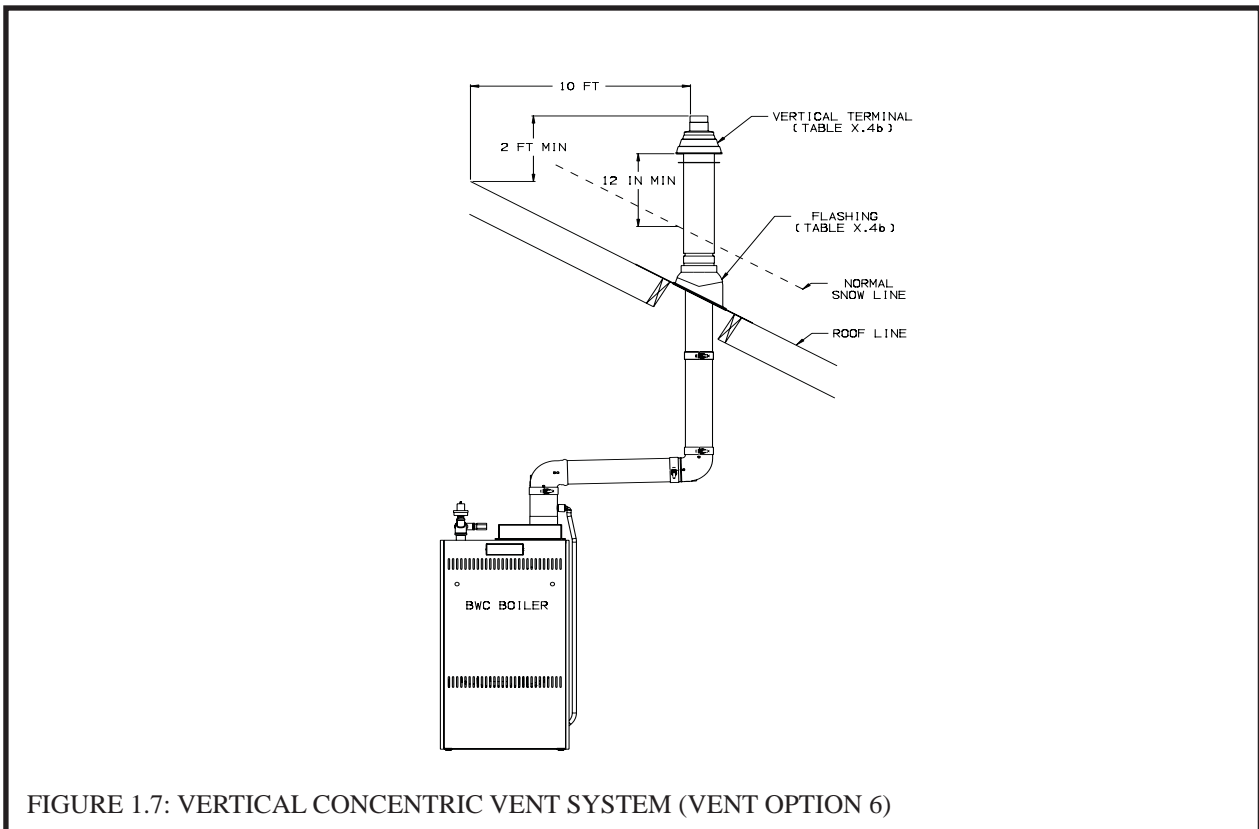

FIGURE 1.7: VERTICAL CONCENTRIC VENT SYSTEM (VENT OPTION 6)
- 7) Vertical Vent Terminal Locations (Vent Options 8,9) - Observe the following limitations on the location of all vertical vent terminals (see Figure 1.7):